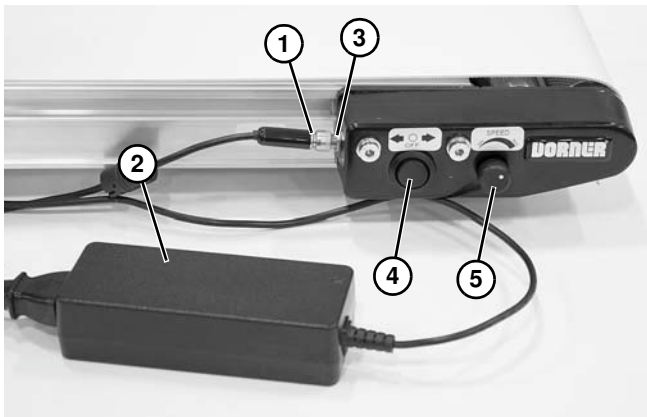

Figure 15
1. No wiring is required. Attach quick disconnect end (**Figure 15, item 1**) of power supply (**Figure 15, item 2**) to power jack (**Figure 15, item 3**).
2. Select conveyor running direction with directional switch (**Figure 15, item 4**).
3. Select conveyor speed with speed control knob (**Figure 15, item 5**).